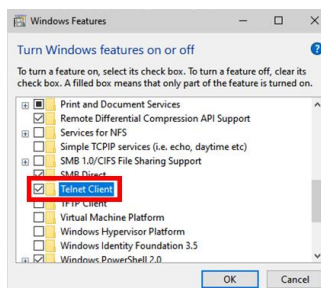

Figure 38. Check on the 'Telnet Client'
3. Check on the [Telnet Client] box as shown in Figure 38 and press 'OK' button.